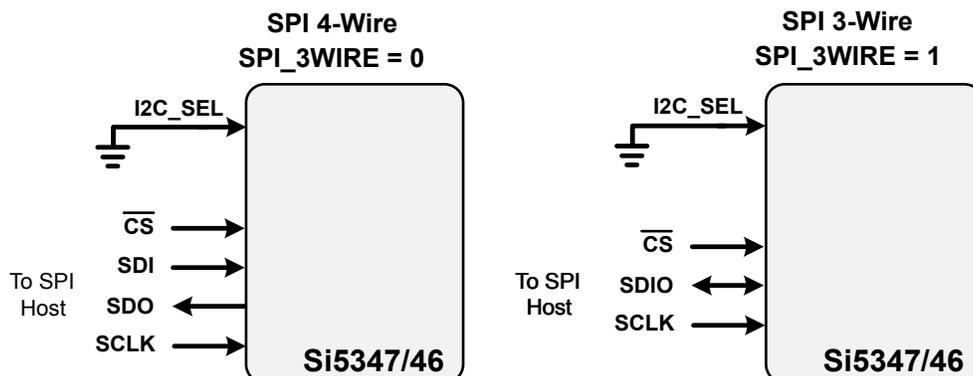

Figure 7.6. SPI Interface Connections
Data is transferred MSB first in 8-bit words as specified by the I²C specification. A write command consists of a 7-bit device (slave) address + a write bit, an 8-bit register address, and 8 bits of data as shown in Figure 7.6 SPI Interface Connections on page 55. A write burst operation is also shown where subsequent data words are written using an auto-incremented address.
When in SPI mode, the serial interface operates in 4-wire or 3-wire depending on the state of the SPI_3WIRE configuration bit. The 4-wire interface consists of a clock input (SCLK), a chip select input (CS), serial data input (SDI), and serial data output (SDO). The 3-wire interface combines the SDI and SDO signals into a single bidirectional data pin (SDIO). Both 4-wire and 3-wire interface connections are shown in Figure 7.6 SPI Interface Connections on page 55.